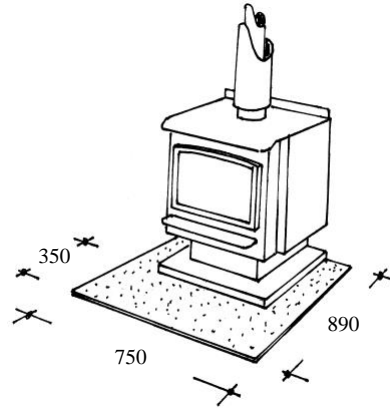

Fig. 1
**HEARTH (FLOOR PROTECTOR) REQUIREMENTS (Fig. 1)**
A floor protector of fibre cement sheet or other suitable non-combustible material must be placed beneath the base of the heater. The floor protector must be a minimum 750mm wide x 890mm deep and 12mm thick. The floor protector must be placed so that its leading edge is a minimum of 350mm forward of the heater base. (See Fig. 1).